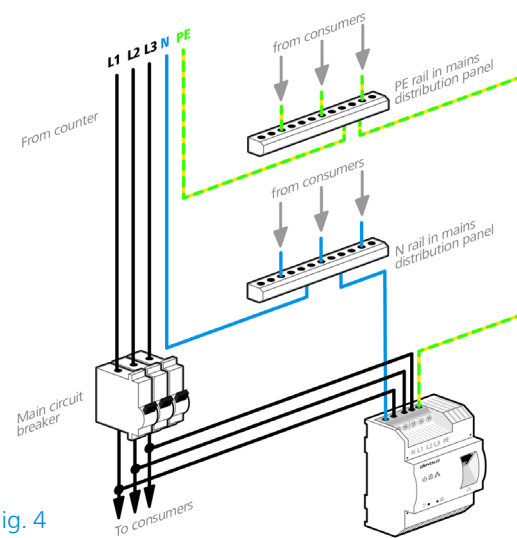

Fig. 4
- **Three-phase connection:** Neutral conductors and three external conductors are connected to terminals **N**, **L1**, **L2** and **L3**. The device is **supplied with power** via terminals **N** and **L1** (see Fig. 4).